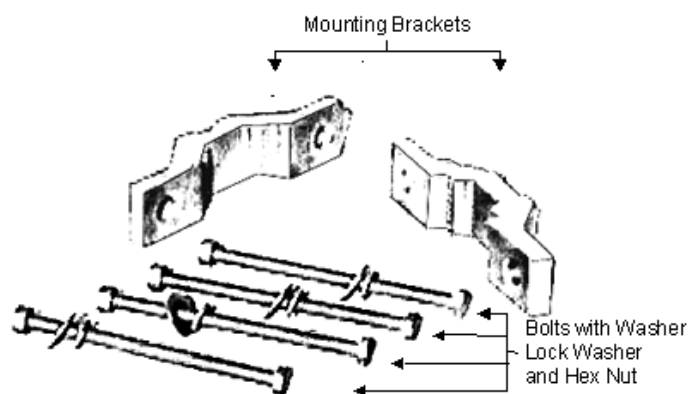

Figure 4-8: Mounting Brackets
7. Remove the bolts, washers, and lock-washers from the mounting bracket as shown in Figure 4-8.
3. Remove the bolts, washers, and lock-washers from the mounting bracket as shown in Figure 4-8.